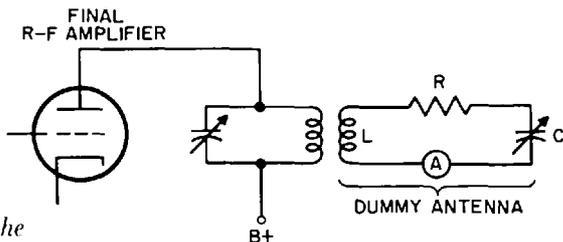

Fig. 41-25. Circuit of the dummy antenna.
**The Dummy Antenna to Measure Power Output.** It is quite essential also to know the power output of a transmitter. The current flowing in the feeder lines (as shown by the ammeter in Fig. 41-12) cannot give us this information because the resistance of the antenna at the point measured is rarely known. Use, therefore, is made of a device known as a *dummy antenna* (Fig. 41-25).